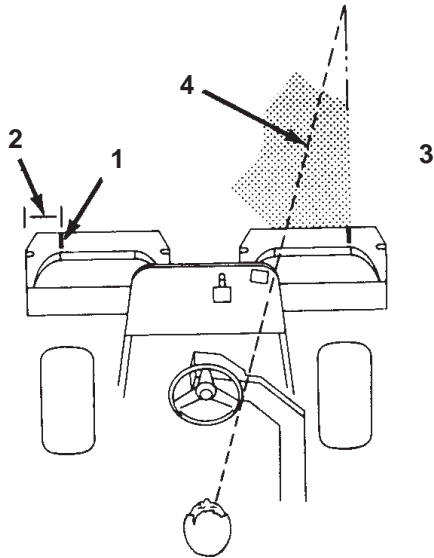

Figure 29
1. Measure in approximately 5 in. (12.7 cm) from the outer edge of each basket (Fig. 29).
2. Either place a strip of white tape or paint a line onto each basket paralleling the outer edge of each basket (Fig. 29).